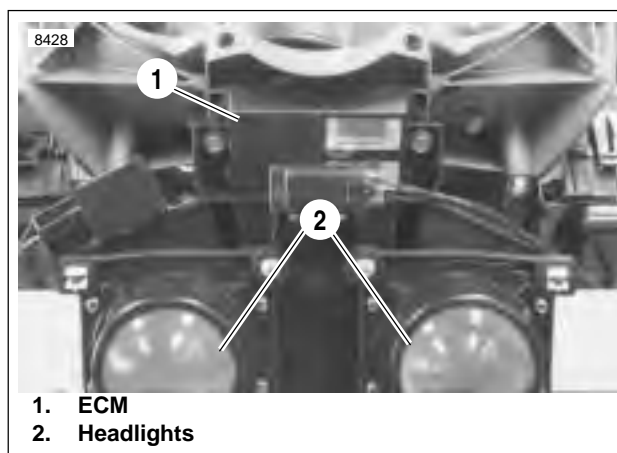

Figure 4-125. Electronic Control Module
2. See Figure 4-125. Inspect connector [10] (black) for contamination or corrosion. If connection is good, replace ECM. See 4.29 ELECTRONIC CONTROL MODULE.